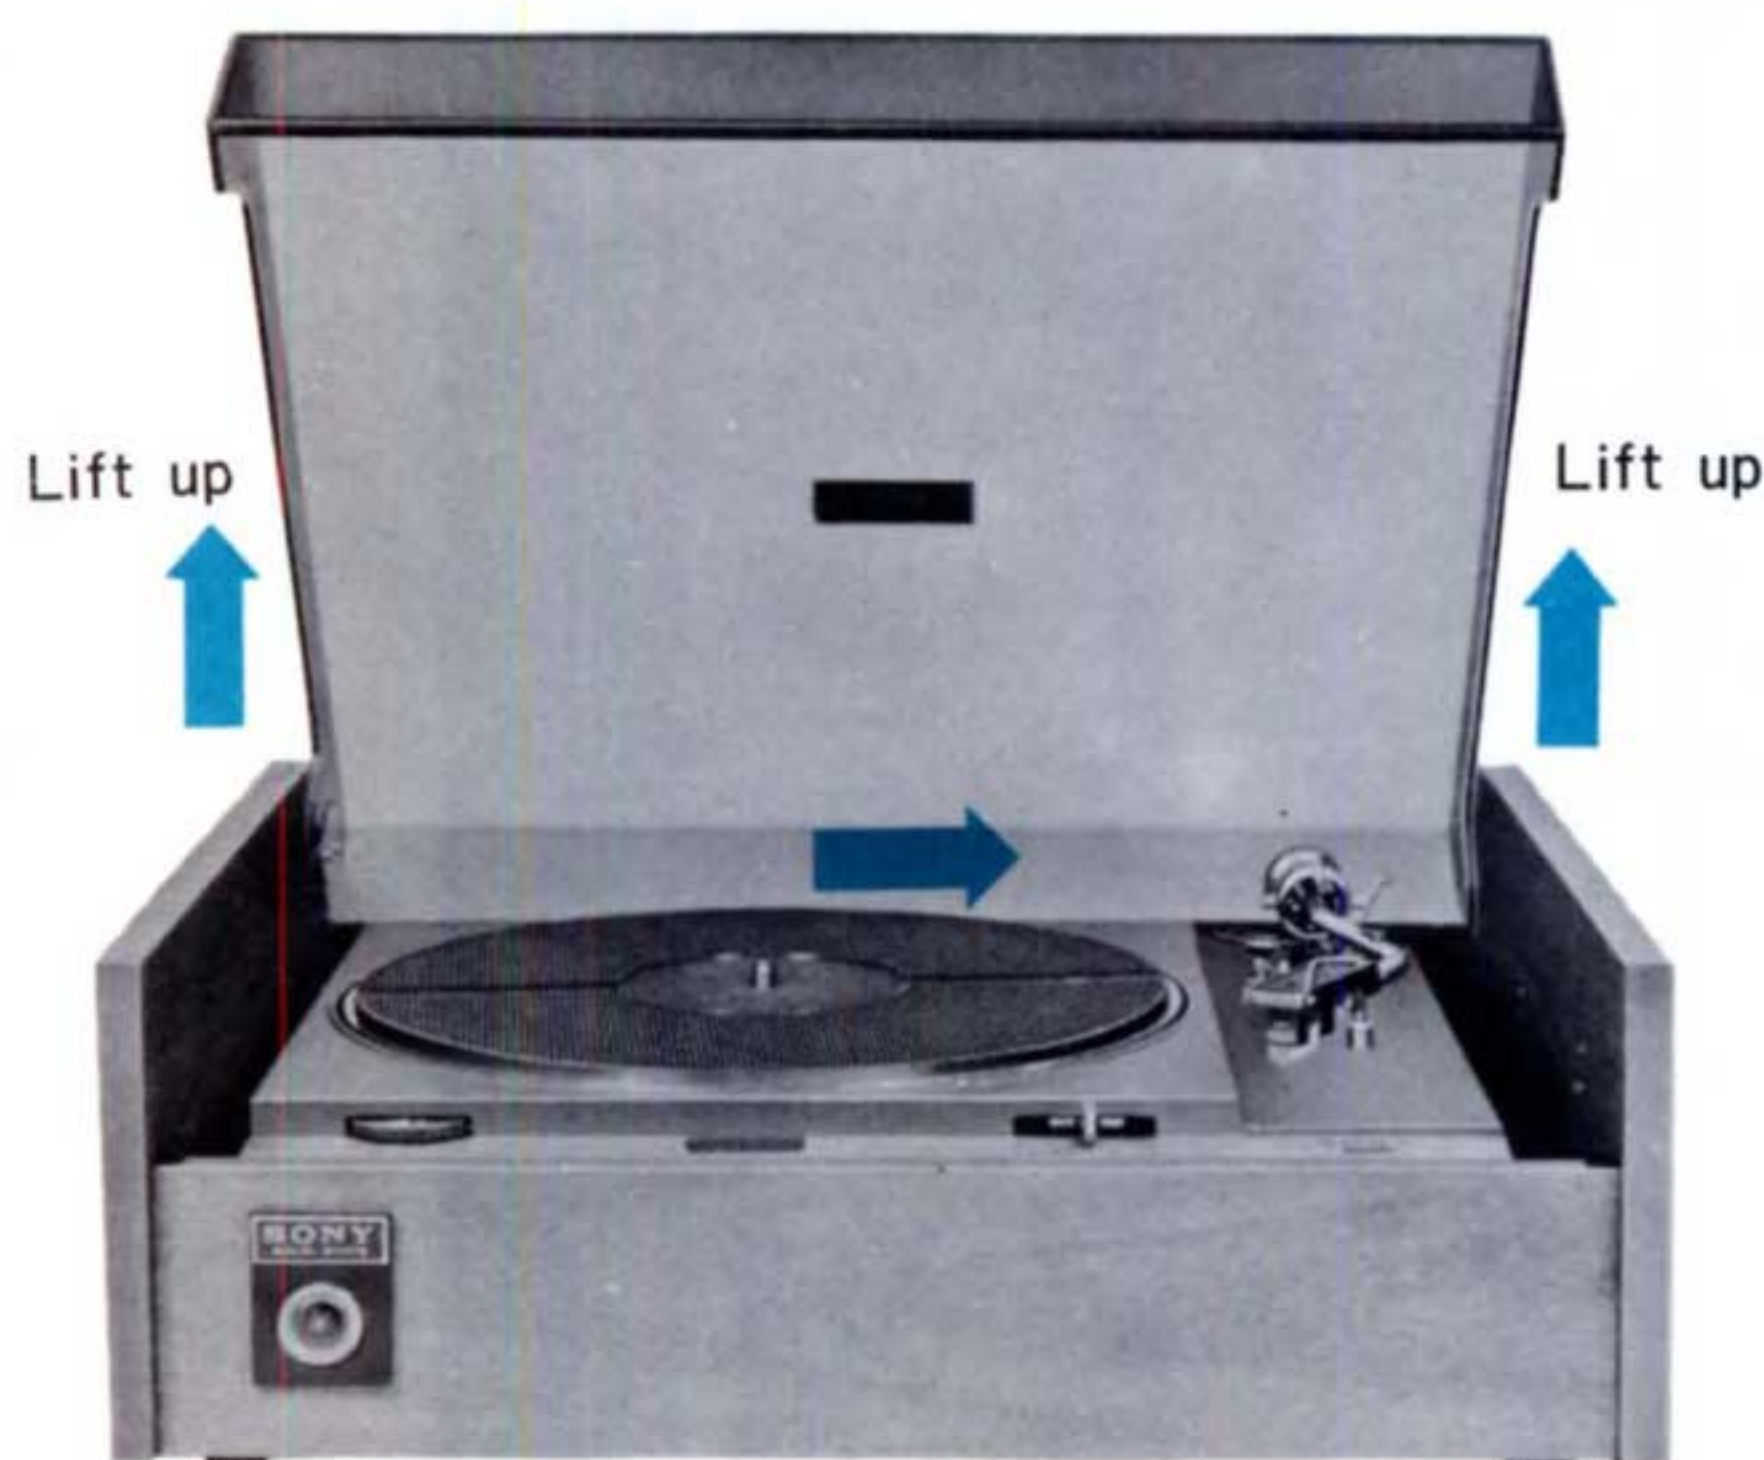

Fig. 2-1 Dust Cover Disassembly
4. Slowly move the right side of the dust cover out away from the cabinet. See Fig. 2-1.